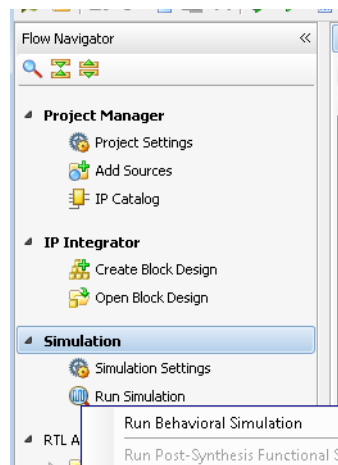

Figure 9-28: Execute Simulation
10. Click **Run Simulation** in the Flow Navigator (Figure 9-28) and select **Run Behavioral Simulation**.